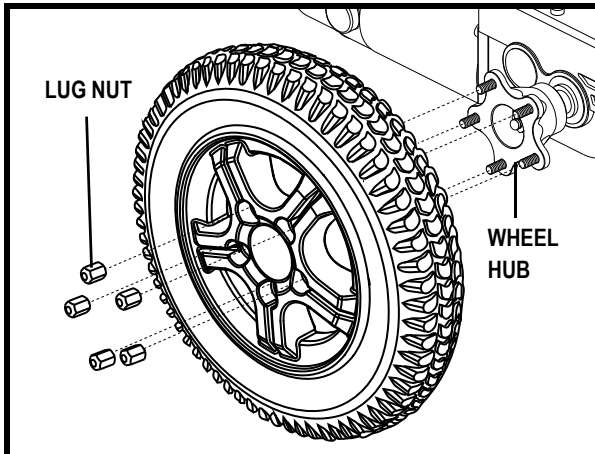

Figure 29. Fusion Drive Wheel
4. Remove the lug nuts from the wheel hub. See figure 29.
13. Connect the rear battery cable to the rear battery terminals according to the battery wiring diagram. **See figure 29.**
16. Reinstall the two (2) thumbscrews to each side of the rear cover.